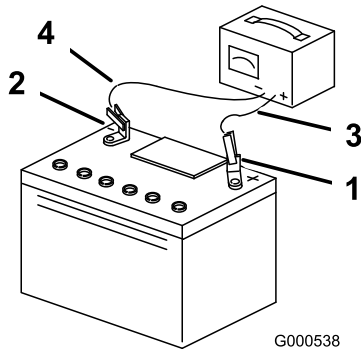

Figure 45
3. When the battery is fully charged, unplug the charger from the electrical outlet, then disconnect the charger leads from the battery posts (Figure 45).